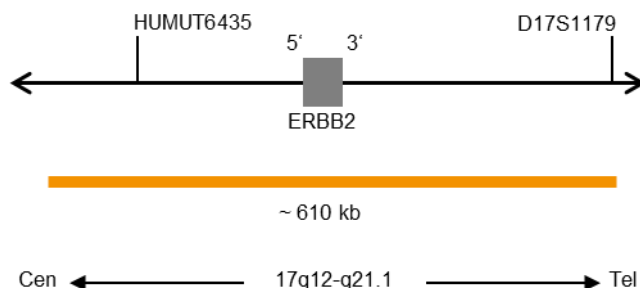

Fig. 1: SPEC ERBB2 Probe map (not to scale)
- ZyOrange (excitation 547 nm/emission 572 nm) labeled polynucleotides (~4.5 ng/μl), which target sequences mapping in 17q12-q21.1* (chr17:37,572,531-38,181,308) harboring the ERBB2 gene region (see Fig. 1).